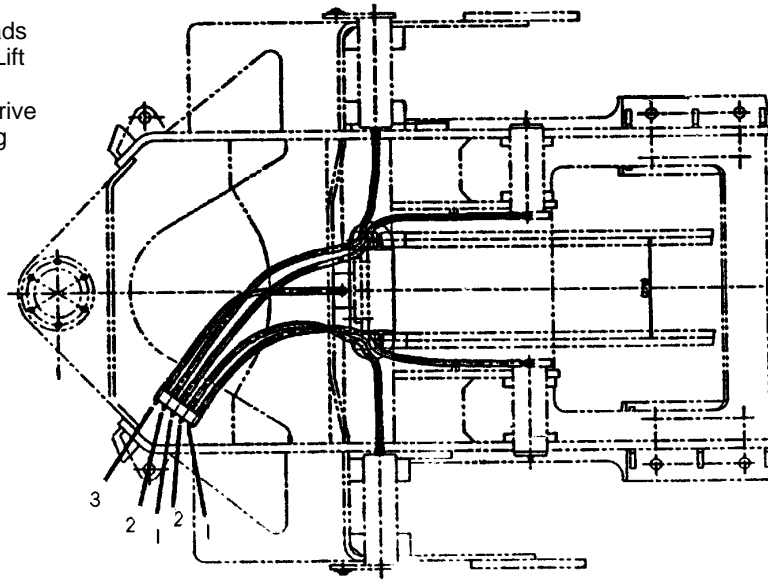

FIGURE 3-4
B. Bucket cylinder head ends. See Figure 3-3. Greased from two remote grease points (1, Figure 3-4).
- C. Lift cylinder heads. See Figure 3-6. Greased from two remote grease points (2, Figure 3-4).
A. Center bearing (1, Figure 3-9) of front drive shaft. Grease from a remote grease point (3, Figure 3-4).